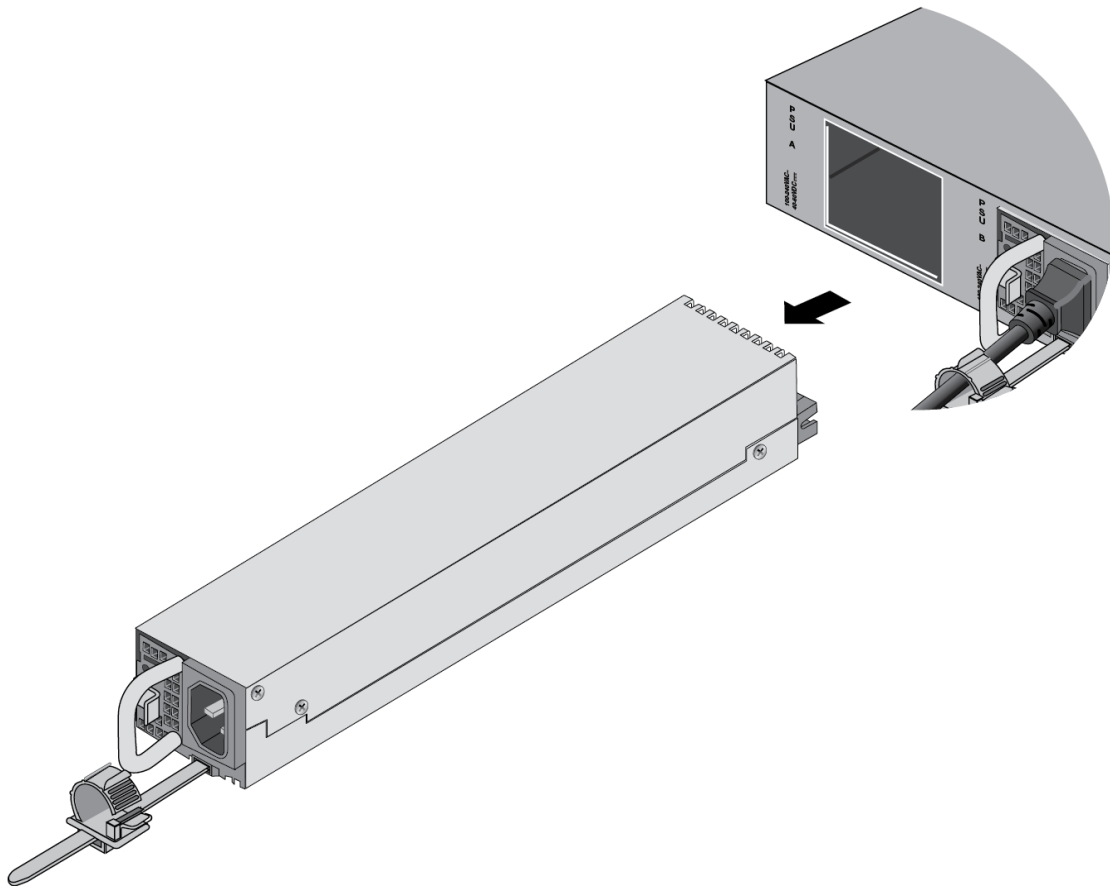

Figure 147. Removing a Power Supply
5. Carefully slide the power supply from the switch. Refer to Figure 147 on page 250.